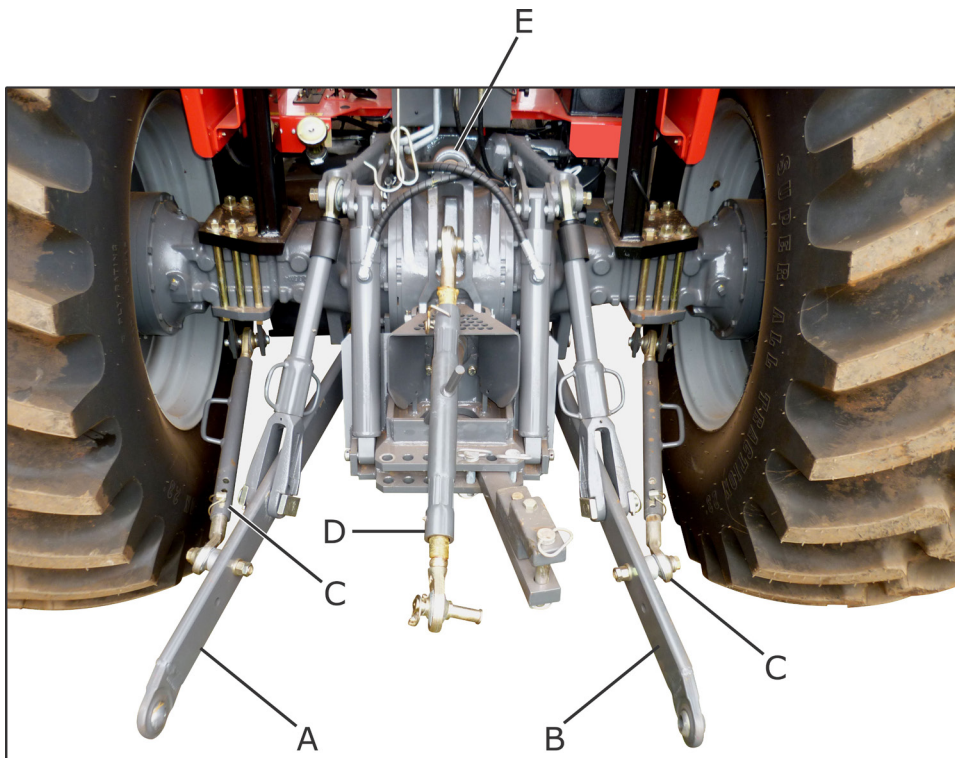
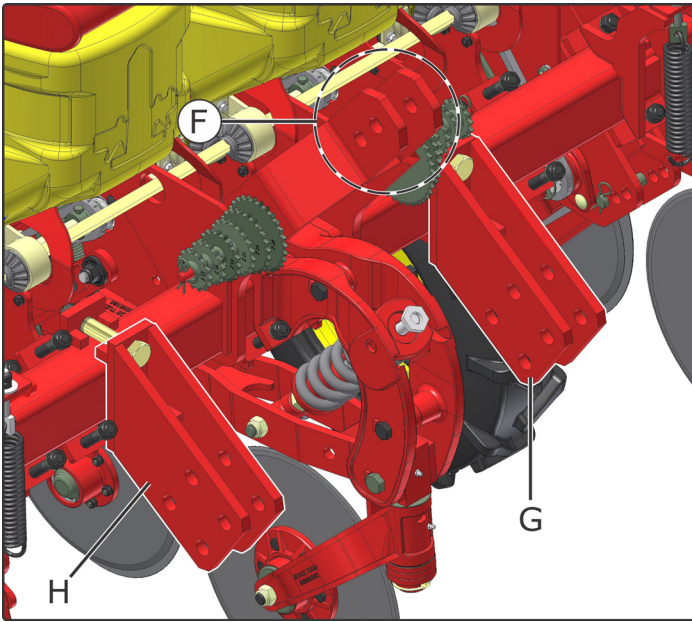

fig. 01
fig. 02
- 3- Attach the lower left arm (A) (fig. 01), not adjustable, on the coupling (G) (fig. 02) and secure it with the safety pin and latch;
- 4- Attach the top link arm (D) (fig. 01) at point (F) (fig. 02), and use the safety pin and latch to lock it;
- 5- Attach the lower right arm (B) (fig. 01), adjustable, on the coupling (H) (fig. 02) and secure it with the safety pin and latch;
- 6- After engaging the seeder, center it in relation to the middle of the tractor by using the stabilizers (C) (fig. 01) of lower arms (A and B) for alignment, checking their distance from the tractor wheel.
Check the top link arm hitch position (D) (fig. 01) on the tractor so that the relief valve is not actuated. Make sure the top link arm (D) is always attached in the opposite position to the relief valve, so that there is no wear on the tractor's hydraulic system.